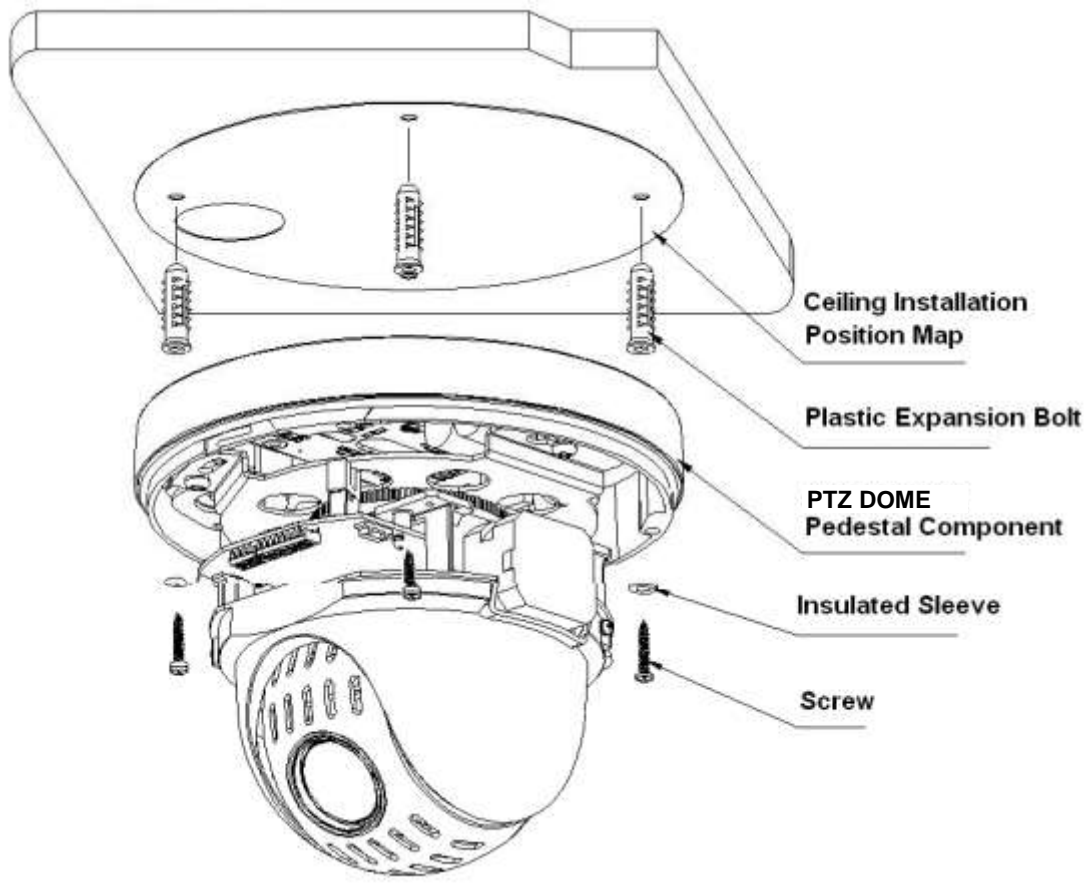

Figure 3-2
3. In Figure 3-2, pull the cable through the hole according to your cable exit option you have selected. Then use four screws (working with the insulated sleeve) to secure the ceiling mount IP PTZ pedestal onto the ceiling. Turn the screws into the plastic expansion bolts.